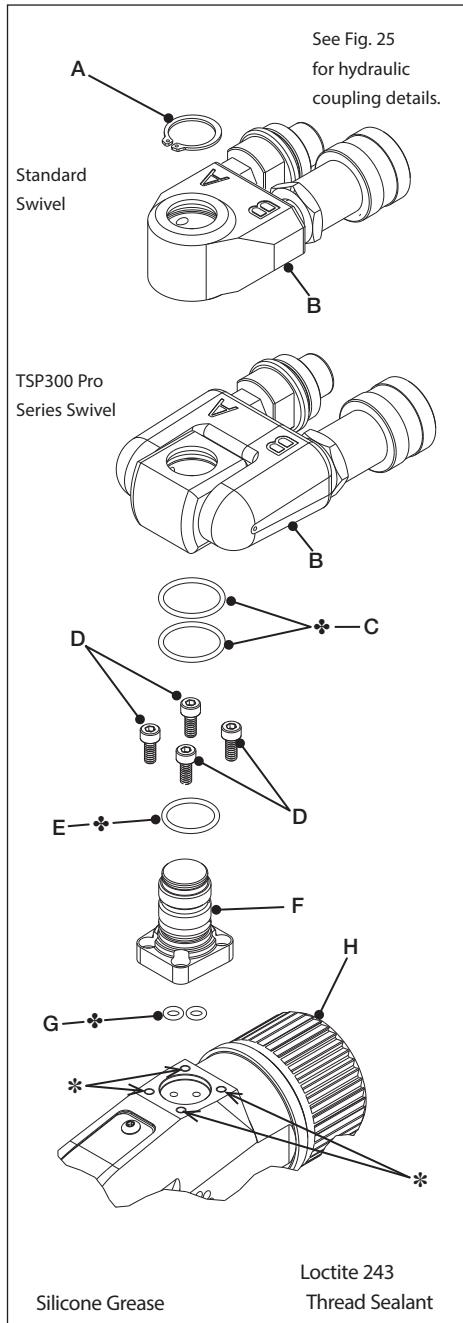
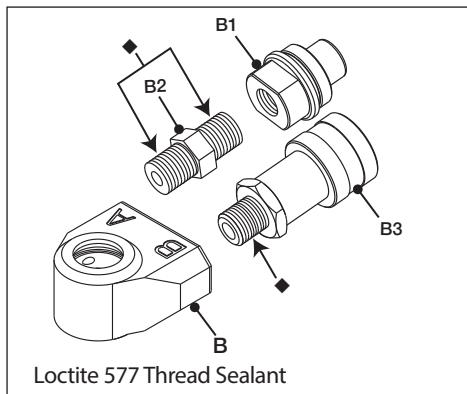

Fig. 21
Fig. 25
#### 5.3.1 Hydraulic Swivel and Swivel Post Removal (Fig. 21 and 25)
Refer to Fig. 21 and Fig. 25 for swivel components.
### 5.3.7 - Hydraulic Swivel and Swivel Post Reassembly and Reinstallation (Fig. 21 and 25)
**NOTICE** If removed, reinstall the couplings (B1 and B3) and adapter (B2) before installing the swivel (B) on the swivel post (F). Use a vise with soft jaws to hold the swivel as couplings and adapter are installed.
- Apply Loctite 577 sealant to threads on female coupling (B3) and adapter (B2). See ( ) in Figure 25 for locations.
- Apply a small amount of Loctite 243 thread sealant to the threaded mounting holes in the wrench housing. See ( ) in Figure 21 for locations.
- Install two new O-rings (G) into the ports on the base of the swivel post (F).
- Place the swivel post (F) on the wrench (H), making sure that hydraulic ports are aligned. Be careful that O-rings (G) do not drop out or become pinched or cut.
- Install the degreased socket head capscrews (D) and tighten them as follows: